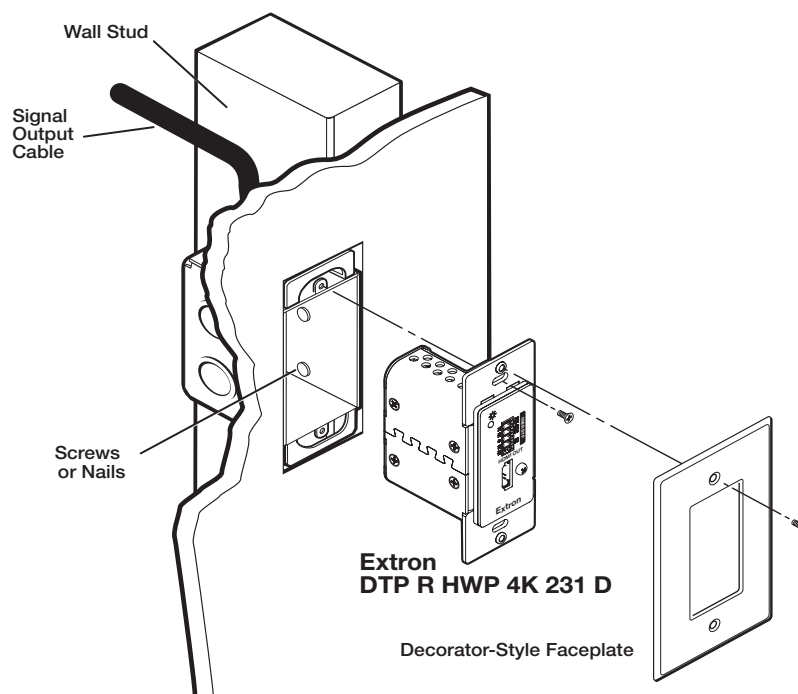

Figure 2. Installing the Wall Box and Mounting the Unit
5. Secure the wall box with nails or screws, leaving the front edge flush with the outer wall or furniture surface (see figure 2).
2. Mount the receiver into the wall box or mud ring and attach the supplied decorator-style faceplate to the unit (see **figure 2** on page 4).